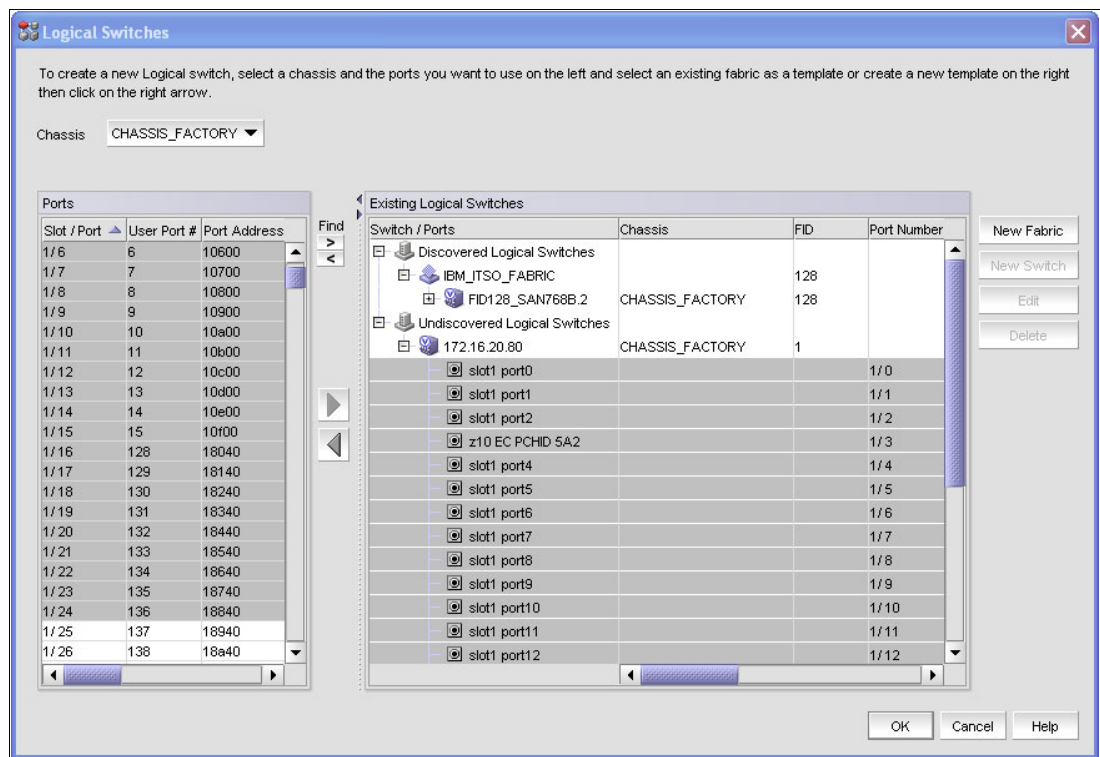

Figure 8-33 Assign Logical ports
13. Assign the desired ports to the new logical switch. Select the ports on the left side, and click the arrow pointing to the right, as shown in Figure 8-33.